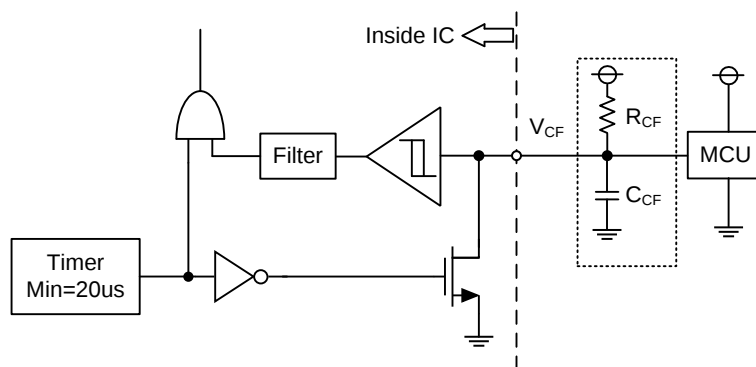

Figure 4. V_{CF} Output Circuit
- (1) If the control GND is connected with the power GND by common broad pattern, it may cause malfunction by power GND fluctuation. It is recommended to connect the control GND and power GND at a single point (N1), near the terminal of the shunt resistor.
- (2) There are two COM pins in the IPM but it is recommended to only use the (15) COM pin to minimize SC detection noise.
- (3) A zener diode D1 (24V/1W) is recommended between each pair of control supply pins to prevent surge destruction.
- (4) Prevention of surge destruction can further be improved by placing the bus capacitor as close to pin P and N1 as possible. Generally a 0.1-0.22 μ F snubber capacitor C3 between the P-N1 terminals is recommended.
- (5) Selection of the R1*C4 filter components for short-circuit protection is recommended to have tight tolerance, and is temperature-compensated type. The R1*C4 time constant should be set such that SC current is shut down within 2 μ s; (typically 1.5-2 μ s). R1 and C4 should be placed as close as possible to the C_{SC} pin. SC interrupting time may vary with layout patterns and components selection, therefore thorough evaluation in the system is necessary.
- (6) NTC signal line should be pull up to the positive side of the 5V/3.3V logic power supply with a proper resistor R2.
- (7) To prevent malfunction, traces A, B, and C should be as short as possible.
- (8) It is recommended that all capacitors are mounted as close to the IPM as possible. (C1: electrolytic type with good temperature and frequency characteristics. C2: ceramic type with 0.1-2 μ F, good temperature, frequency and DC bias characteristics.)
- (9) Input drives are active-high. There is a minimum 3.5kΩ pull-down resistor in the input circuit of IC. To prevent malfunction, the layout to each input should be as short as possible. When using RC coupling circuit, make sure the input signal levels meet the required turn-on and turn-off threshold voltages.
- (10) V_{CF} output is open drain type. It should be pulled up to MCU or control power supply (max= $5\pm 0.5V$), limiting the current (I_{CF}) to no more than 1mA. I_{CF} is estimated roughly by the formula of control power supply voltage divided by the pull-up resistor R3. For example, if control supply is 5V, a 10kΩ (over 5kΩ) pull-up resistor R3 is recommended.
- (11) If only a pull-up resistor R3 of 10kΩ connected to V_{CF} pin, the fault output pulse width is fixed at minimum 20μs. If a capacitor C5 is connected with a pull-up resistor R3, the fault output pulse width can be controlled according to the resistor value and capacitor value. For the design guide, please refer to the Figure 4.
- (12) Direct drive of the IPM from the MCU is possible without having to use opto-coupler or isolation transformer.
- (13) The IPM may malfunction and erroneous operations may occur if high frequency noise is superimposed to the supply line. To avoid such problems, line ripple voltage is recommended to have $dV/dt \leq \pm 1V/\mu s$, and $V_{ripple} \leq 2V_{p-p}$.
- (14) It is not recommended to use the IPM to drive the same load in parallel with another IPM or inverter types.